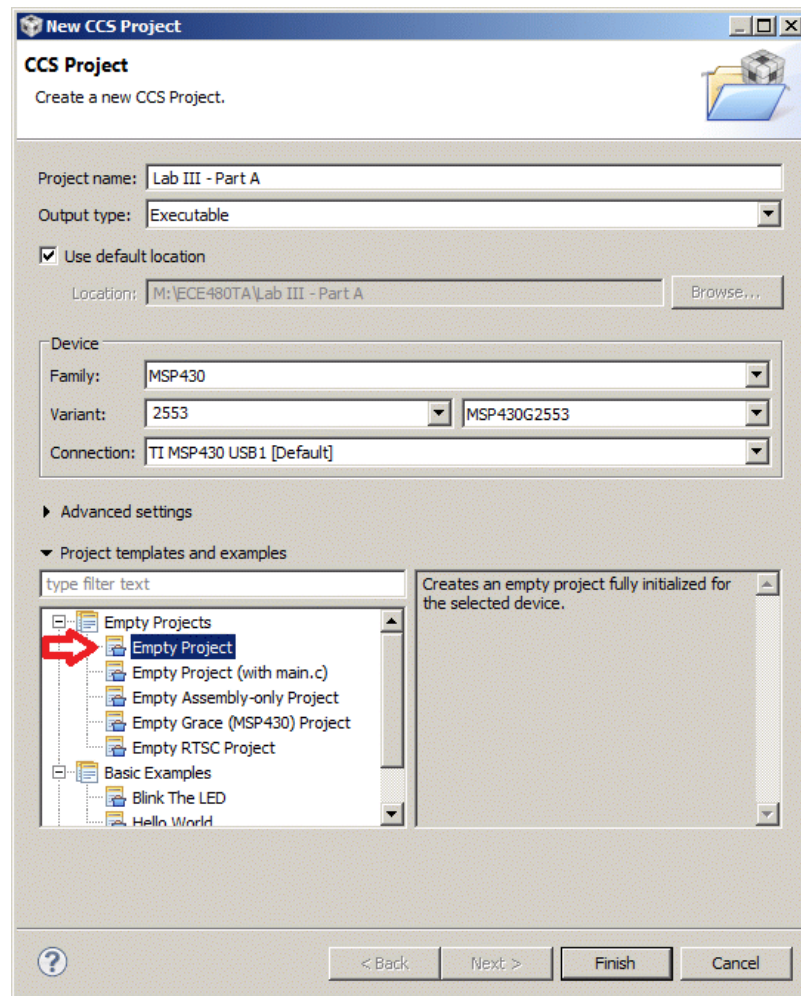

Figure 1. New CSS Project Wizard.
4. Select File > New > CCS Project. A New CCS Project Wizard should appear as shown in Fig. 1. In Project name: type Lab III - Part A. (When we move on to the next part we can create a new project, leaving the previous project easy to access if needed.)